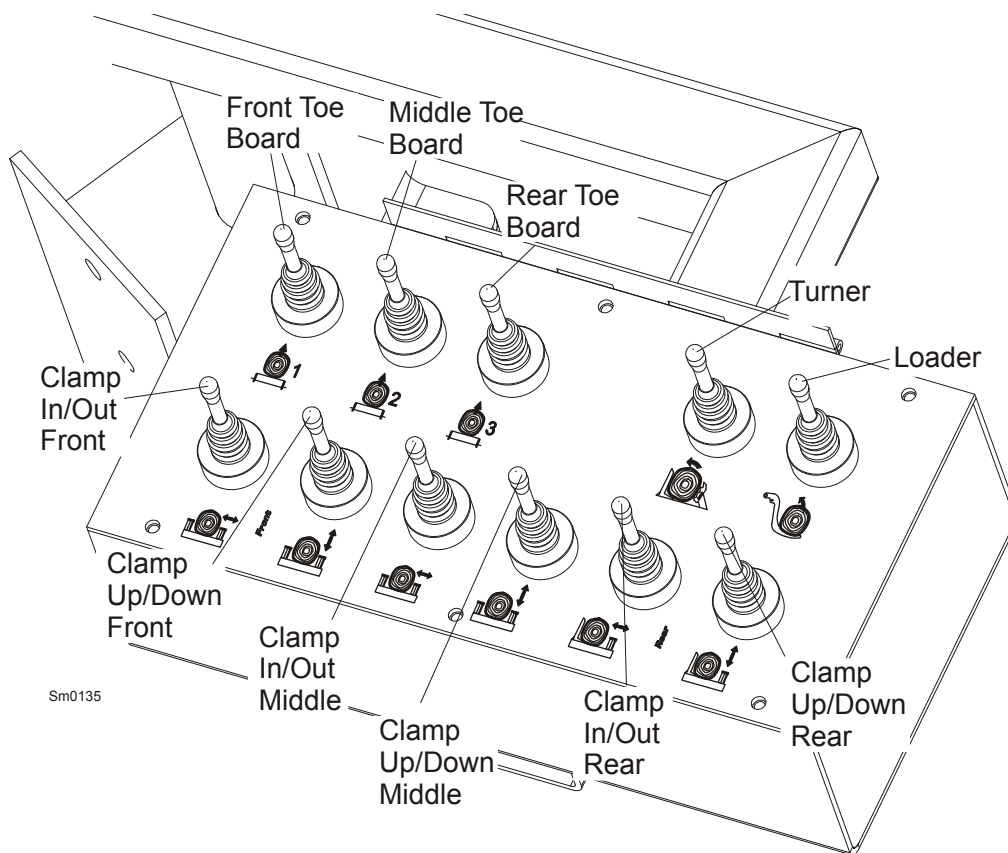

FIG. 2-7
**See Figure 2-7.** Sawmills with hydraulic control have eleven control levers to load, clamp, turn and level logs.